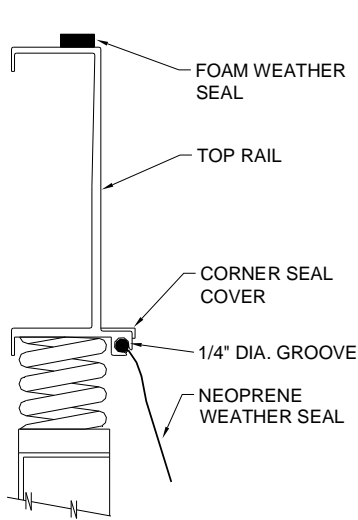

Figure 6.1
- B. Start at one corner of the isolation rail system and slide the rounded edge of the weather seal into the 1/4" diameter groove in the upper rail (see figure 6.1 & 6.3).
- H. Attach foam weather seal to top outside edge of upper rails as shown in figure 6.1.